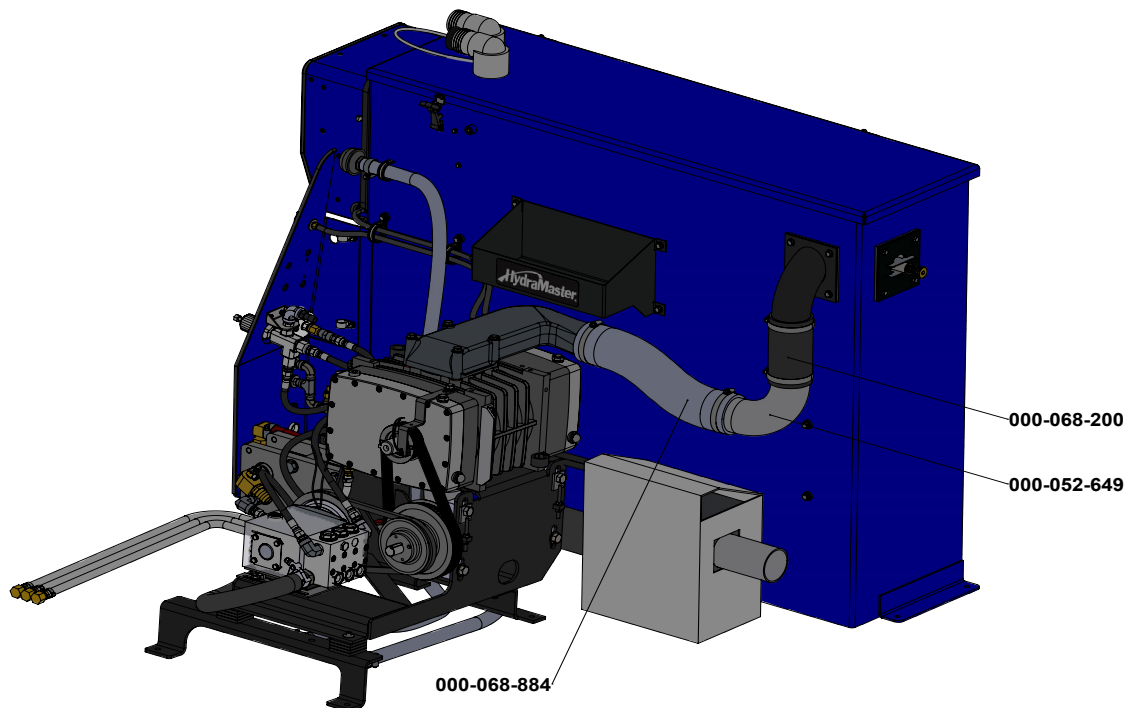

Figure 59. Connect Hoses and Elbow onto Recovery Tank; Attach Smaller Hoses onto Blower Elbow and CDS Instrument Panel
5. Connect these hoses and elbow as shown in Figure 59.
7. Route the longer 1" diameter hose (P/N 000-068-828) from the Yaw Sensor Cover toward the CDS instrument panel (see Figure 59).